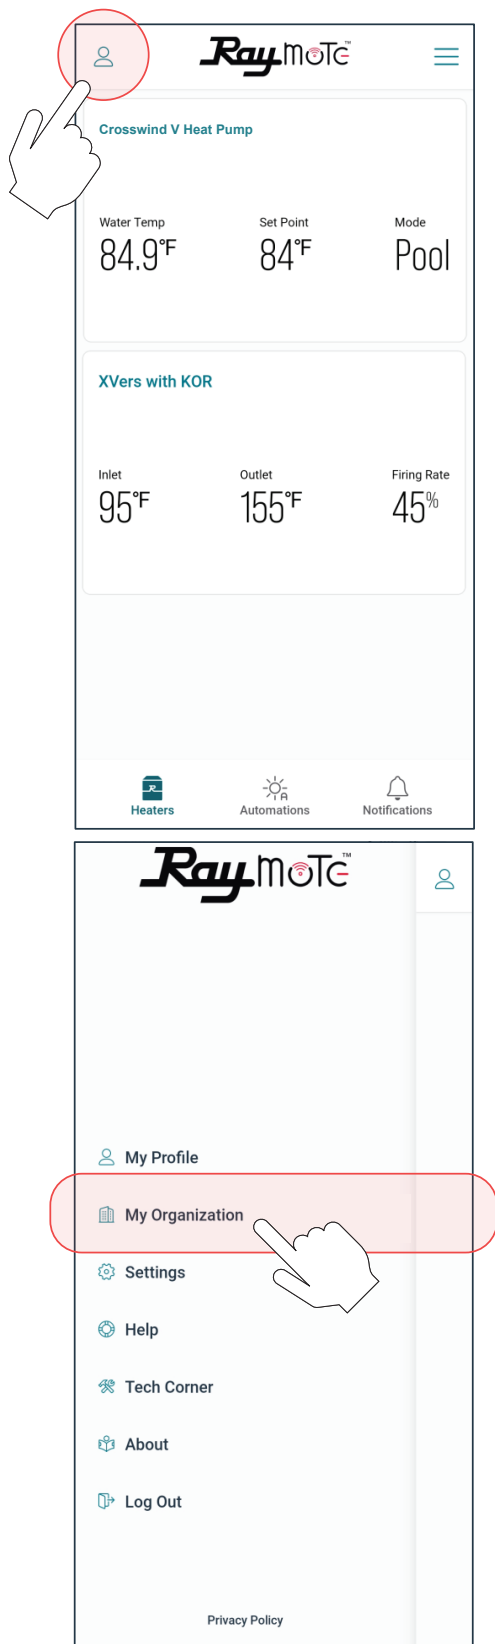

Figure 111. Select Organization Option
2. Click on the top-left "User menu". Then, select "My Organization" option. See Figure 111.